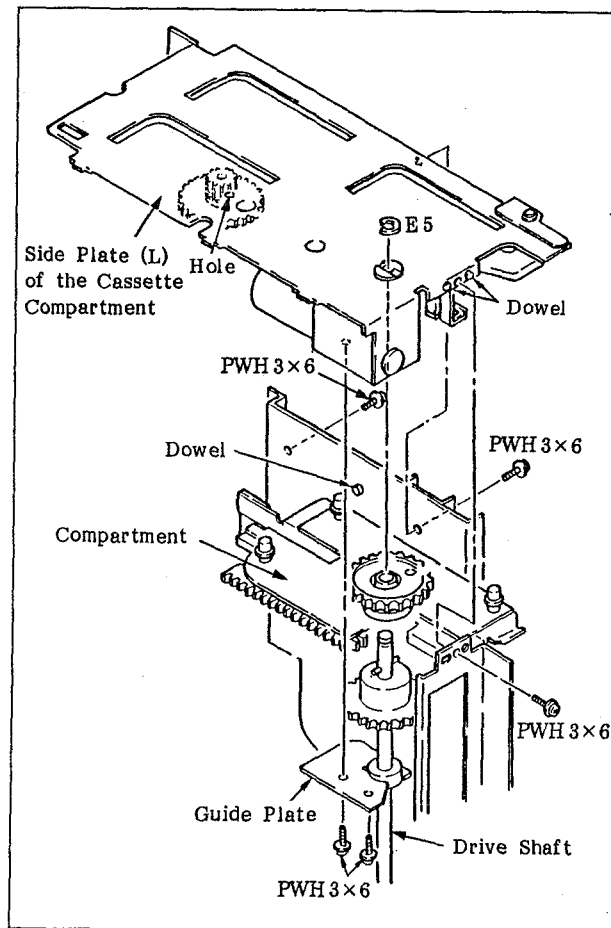
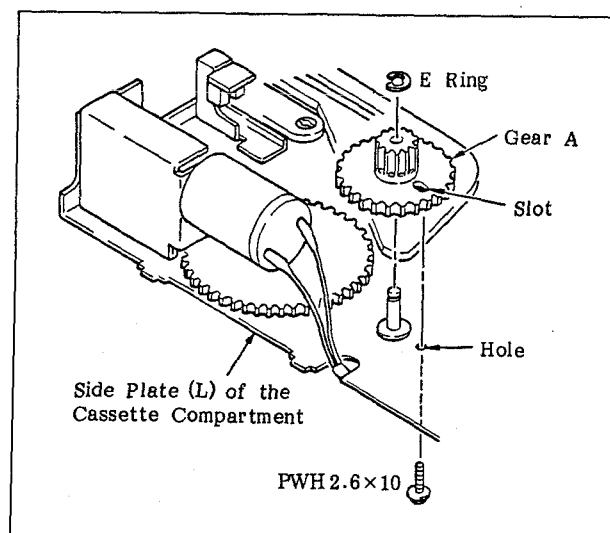

Fig. 6-26 Replacement of Gear A (left side)
Fig. 6-27 Adjusting the Phase
2. Turn the drive wheel by a hand so that the slot of gear A shown in Figure 6-27 can be seen through the hole of the side plate of the cassette compartment shown in Figure 6-26.
5. Screw a screw (PWH2.6 x 10) into the hole of the side plate shown in Figure 6-27 and pass the screw through the slot of gear A.